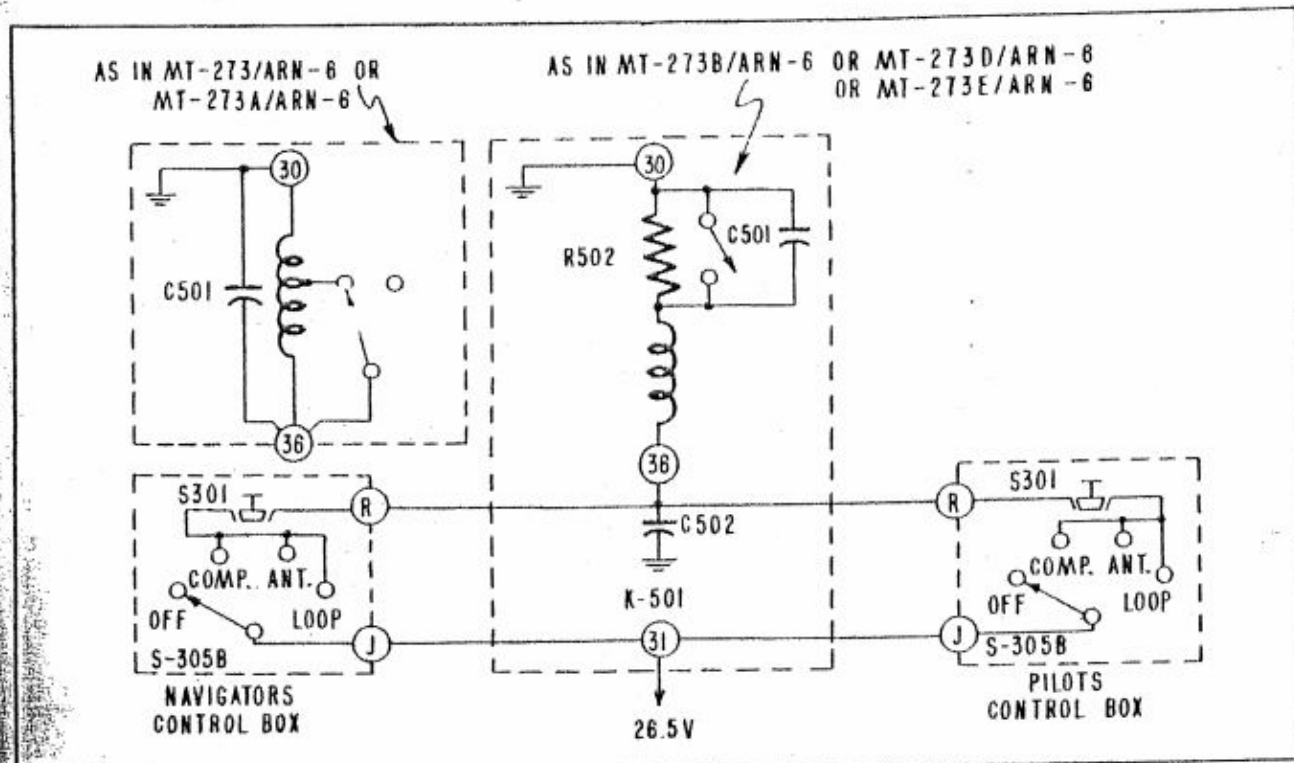

Figure 4-20. Functional Diagram—Control Transfer Circuit
(1) The plates of the output tubes are connected to the push-pull primary of the output transformer T-105B, which is paralleled with capacitor C-1112 to modify the response, and stop oscillations resulting otherwise from the feedback described below.
(5) The secondary of T-105B is connected to the audio circuits in the control box and thence to the interphone or headphone. It is also connected to a feedback network, R-165, C-1138, C-1137, R-164, R-163, and C-1136. This network is designed to pass 2500 cycles per second; the sharpness of tuning inherent in the network is reduced by using a selectively low impedance load consisting of R-162 and R-166. These two resistors also act as a voltage divider, and since R-166 is used in common with the cathode circuit of the audio driver, V-110B (in R-101 ARN-6) or V-110B (in R-101A ARN-6) a feedback results. The effect of this feedback is to boost the high frequencies.
i. CONTROL TRANSFER CIRCUIT. (See figure 4-20.)
(1) The circuit by which control is transferred from one control box to the other is quite simple. S-301 is a sensitive switch operated by a push-button located at the center of the hand-switch knob on the control box. If this switch should be pressed while the function switch is at any of the three "on" positions, it will energize relay K-501 in receiver Mounting MT-2730-1 ARN-6. This relay is a stepping type, such that successive impulses switch receiver connections alternately from one control box to the other.
(2) In mounting MT-273A ARN-6 there is a single switch wafers shown at the lower end of the relay (figures 4-20 and 4-21), which is not connected with the stepping mechanism; it has normally closed contacts. In mountings MT-273B ARN-6, MT-273D ARN-6, and MT-273E ARN-6 this switch is a spring type switch (in place of the previously mentioned wafers switch) operated by a lever on the shaft of the relay solenoid. When the coil is energized, the contacts open, cutting in a high resistance section of the coil, to prevent over-heating in case the button should remain depressed for an appreciable time. The capacitor C-502 is used for spark reduction when S-301 is opened.
(3) Upon operation of K-501, all control box connections are transferred, except the 26.5-volt supply, the audio output, and the ground connections, which are common to both boxes.